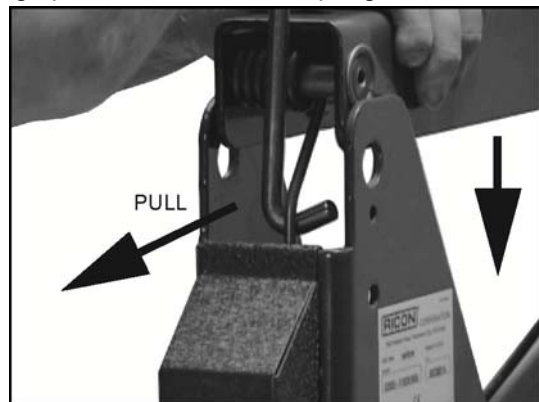

FIGURE 3-17: PLACE REAR SPRING
- g. Refer to **Figure 3-17**. Use appropriate tool to use as leverage to pull back tine of bent rear spring and place into baseplate tower.